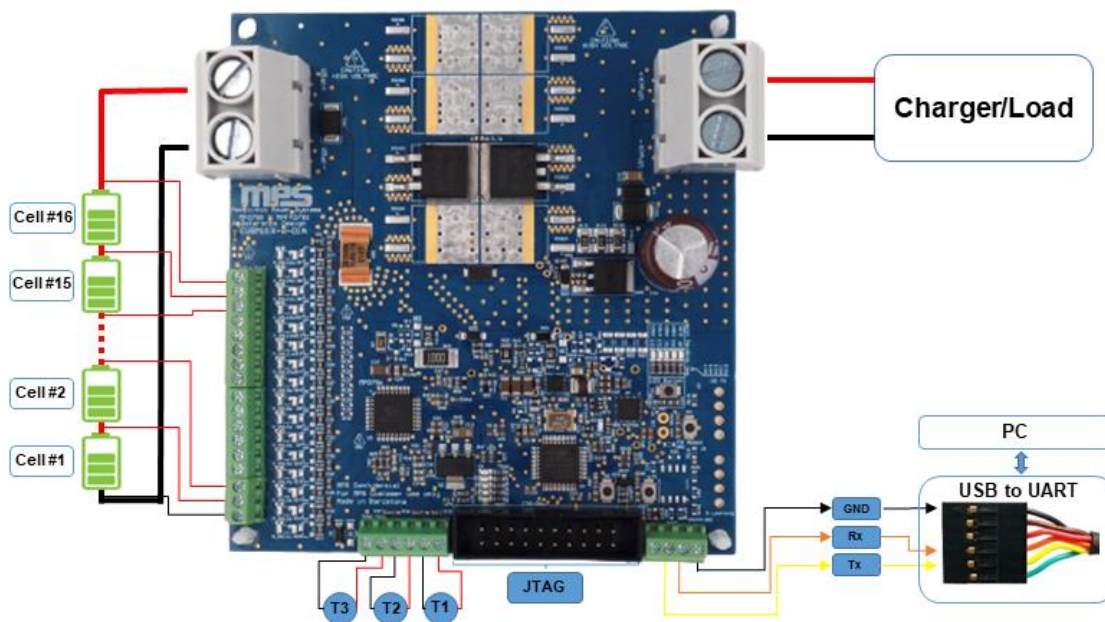

Figure 19: EVB Wire Connection
The hardware must be properly configured prior to use, and the evaluation board connections must be correct. For the best results, refer to Figure 19 and follow the steps below:
1. Connect the cell terminals to the sensing connectors (see Figure 19).
2. Select the evaluation board in use (see Figure 19 on page 20) The desired BMS and fuel gauge (FG) IC can be selected in a few ways.